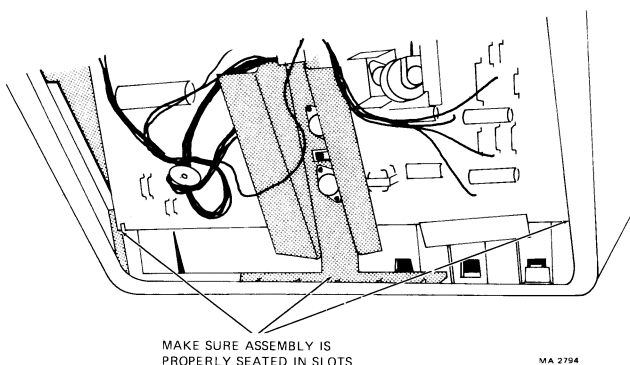

Figure 3-11 Installing the Power Supply/Monitor Board Assembly
**When replacing the power supply/monitor assembly ensure that the assembly is properly seated in the terminal (Figure 3-11). When capacitors are installed ensure that terminals extend approximately 1/4 inch beyond the power supply/monitor assembly.**